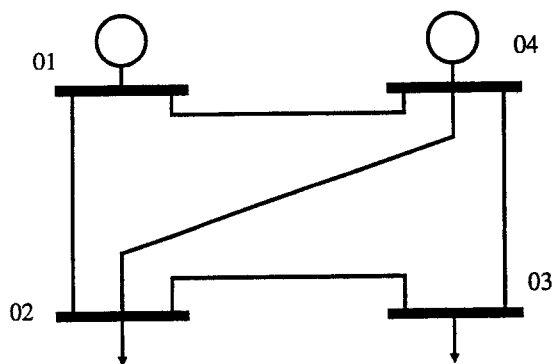

Figure 6.1: A four-bus power system
- (c) A power four-bus power system shown in Figure 6.1 has two load buses (bus 2 and 3) and two generator buses (bus 1 and 4). The bus voltage and angles in bus 1 to 4 are $V_i \angle \theta_i, \forall i = 1$ to 4. The load bus powers are P_2, P_3, Q_2, Q_3 , the generator output powers are P_1 and P_4 respectively. The lines have finite resistances and reactances. Each load is connected to load bus through on-load tap-changing transformers (OLTC) with tap positions t_1 and t_2 . The objective $f(\mathbf{x}, \mathbf{u}, \mathbf{p})$ is to minimize total transmission losses in the network. List the state (\mathbf{x}) and control (\mathbf{u}) variables and fixed parameters (\mathbf{p}). [7]